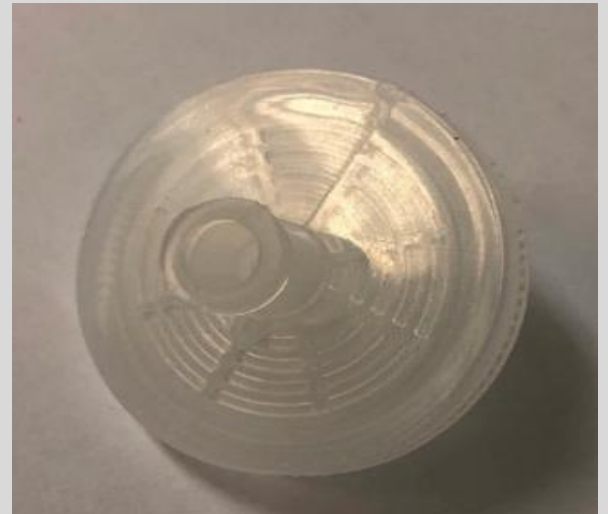

Fig. 10
- To prepare the product syringe for use, a blood filter (Fig. 10) should be attached to the syringe luer and an intravenous extension attached to the opposite side of the filter. The extension set should then be attached to the patient's intravenous catheter.